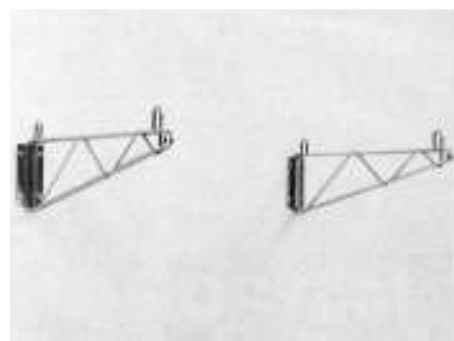

Fig. 4
6. Repeat operations 4 and 5 for the other mounting plate and shelf support (Fig. 4).